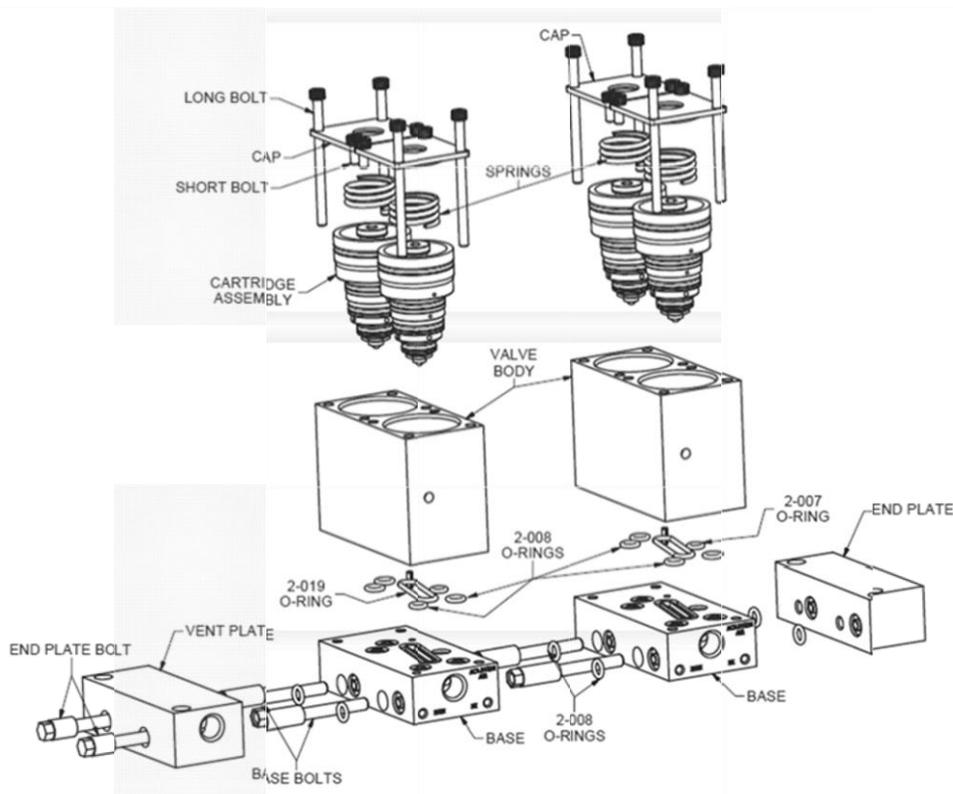

Figure 1: Gen II R-Max Stream Select System Exploded View
- The CYCLOPS Z – Purge Indicator mounts directly to purged enclosure. No additional sheet metal enclosures or plumbing is required. (Refer to Figures 1, 2, 3, & 4)
Section 6.1 Module Disassembly (refer to Figure 1)
Module Reassembly (refer to Figure 1)
Section 6.2 System Reassembly (refer to Figure 1)